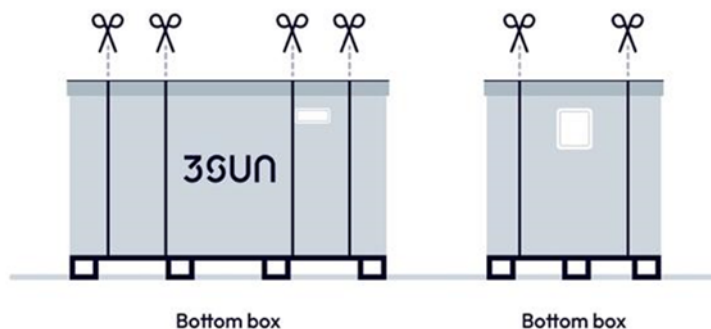

Figure 15: Bottom box internal straps removal order.
- a) Cut the outer box straps (Figure 15).